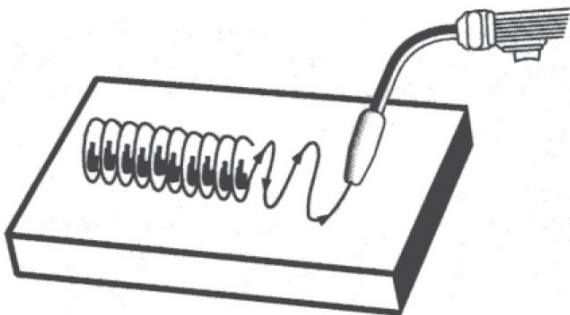

Figure 12. Weave Bead
2. The WEAVE BEAD (Figure 12) is used when you want to deposit metal over a wider space than would be possible with a stringer bead. It is made by weaving from side to side while moving with the gun. It is best to hesitate momentarily at each side before weaving back the other way.